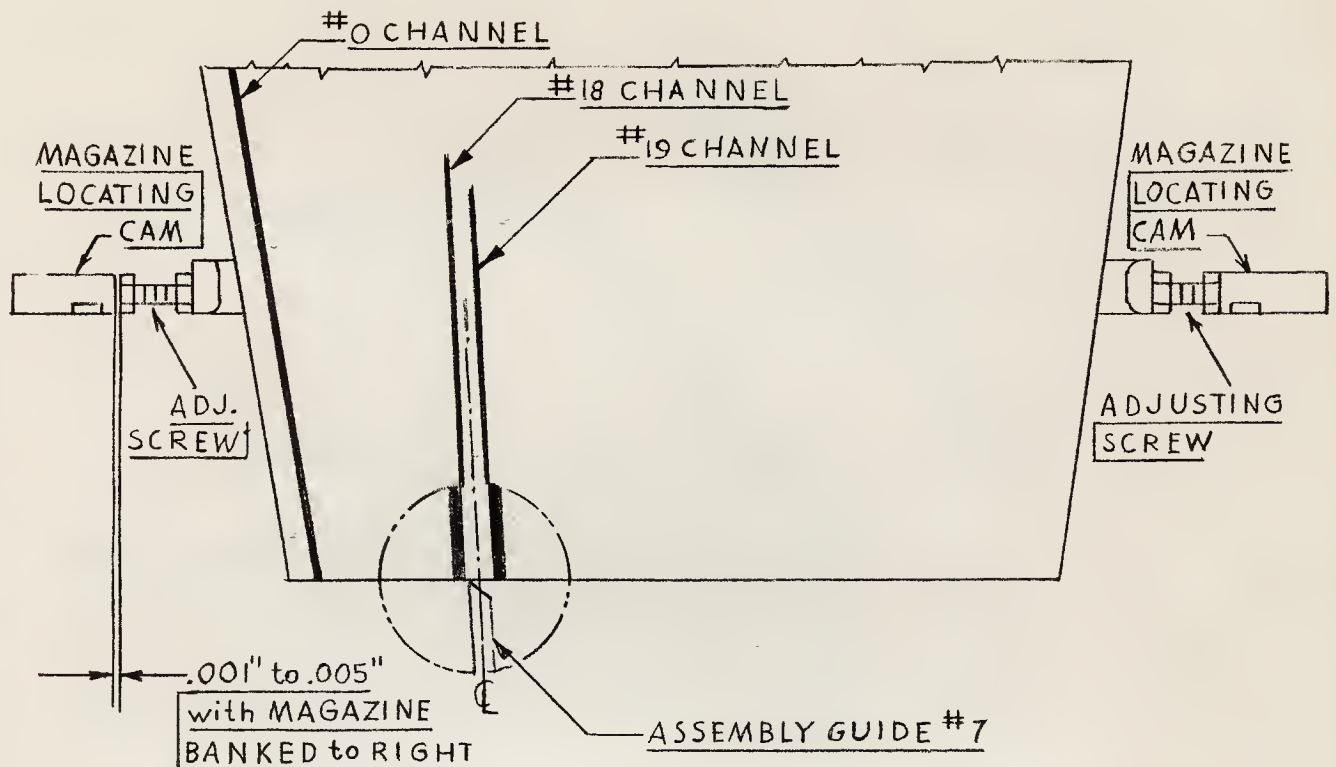

FIG. 2
(B) Lateral location of magazine to assembler front (Fig. 2)